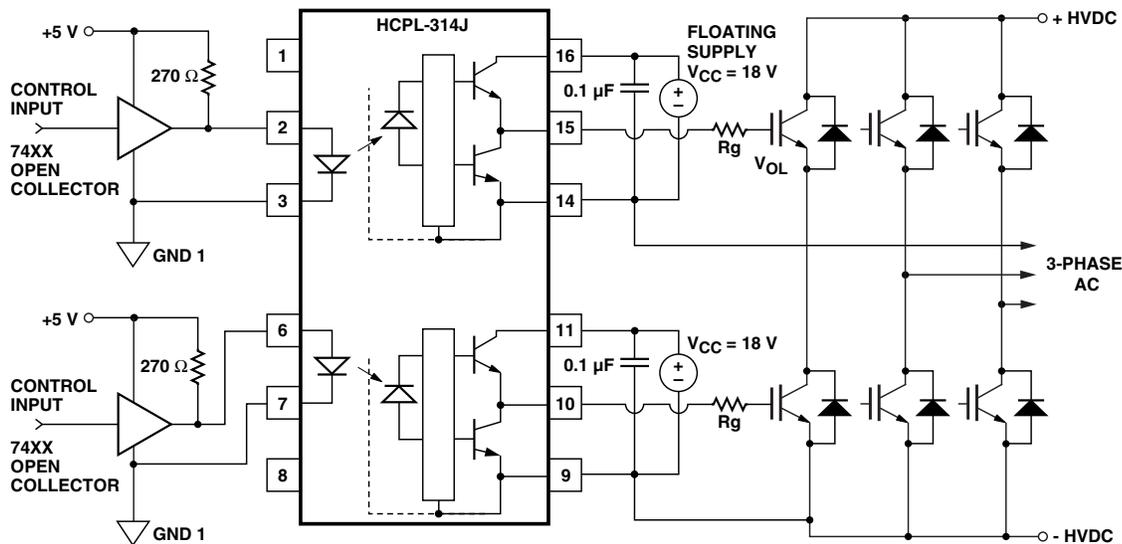
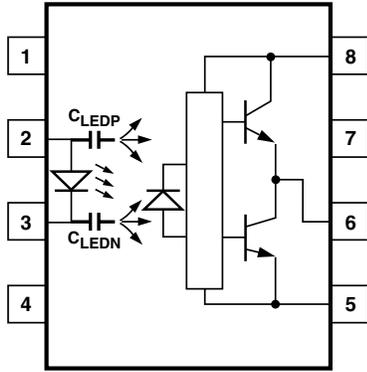
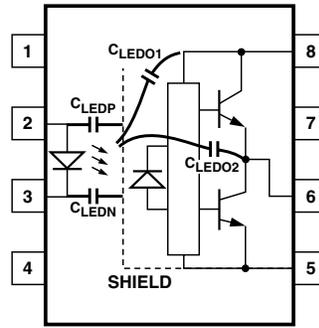
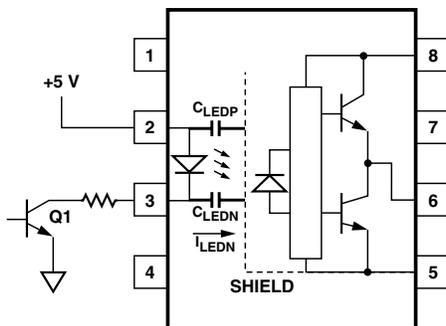

Figure 19. Recommended LED Drive and Application Circuit for HCPL-314J.
Figure 21. Optocoupler Input to Output Capacitance Model for Unshielded Optocouplers.
Figure 22. Optocoupler Input to Output Capacitance Model for Shielded Optocouplers.
Figure 24. Not Recommended Open Collector Drive Circuit.
To keep the IGBT firmly off, the HCPL-314J has a very low maximum V_{OL} specification of 1.0 V. Minimizing R_g and the lead inductance from the HCPL-314J to the IGBT gate and emitter (possibly by mounting the HCPL-314J on a small PC board directly above the IGBT) can eliminate the need for negative IGBT gate drive in many applications as shown in Figure 19. Care should be taken with such a PC board design to avoid routing the IGBT collector or emitter traces close to the HCPL-314J input as this can result in unwanted coupling of transient signals into
the input of HCPL-314J and degrade performance. (If the IGBT drain must be routed near the HCPL-314J input, then the LED should be reverse biased when in the off state, to prevent the transient signals coupled from the IGBT drain from turning on the HCPL-314J.) An external clamp diode may be connected between pins 14 & 15 and pins 9 & 10 (as shown in Figure 19) for the protection of HCPL-314J in the case of IGBTs switching inductive load.
Step 1: Calculate R_g minimum from the I_{OL} peak specification. The IGBT and R_g in Figure 24 can be analyzed as a simple RC circuit with a voltage supplied by the HCPL-314J.
where $K_{ICC} \cdot Q_g \cdot f$ is the increase in I_{CC} due to switching and K_{ICC} is a constant of 0.001 mA/(nC*kHz). For the circuit in Figure 19 with I_F (worst case) = 10 mA, R_g = 32 Ω, Max Duty Cycle = 80%, Q_g = 100 nC, f = 20 kHz and T_{AMAX} = 85°C:
Without a detector shield, the dominant cause of optocoupler CMR failure is capacitive coupling from the input side of the optocoupler, through the package, to the detector IC as shown in Figure 21. The HCPL-314J improves CMR performance by using a detector IC with an optically transparent Faraday shield, which diverts the capacitively coupled current away from the sensitive IC circuitry. However, this shield does not eliminate the capacitive coupling between the LED and optocoupler pins 5-8 as shown in Figure 22. This capacitive coupling causes perturbations in the LED current during common mode transients and becomes the major source of CMR failures for a shielded optocoupler. The main design objective of a high CMR LED drive circuit becomes keeping the LED in the proper state (on or off) during common mode transients. For example, the recommended application circuit (Figure 19), can achieve 10 kV/μs CMR while minimizing component complexity.
The open collector drive circuit, shown in Figure 24, can not keep the LED off during a $+dV_{CM}/dt$ transient, since all the current flowing through C_{LEDN} must be supplied by the LED, and it is not recommended for applications requiring ultra high CMR₁ performance. The alternative drive circuit which like the recommended application circuit (Figure 19), does achieve ultra high CMR performance by shunting the LED in the off state.